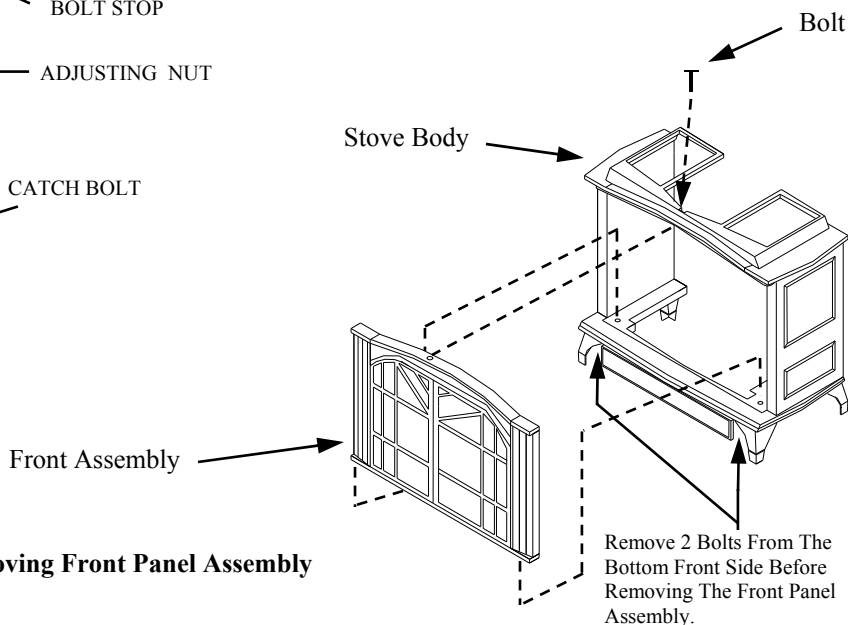

Figure 12– Removing Front Panel Assembly
13. Remove 2 bolts from the bottom of the stove and discard. Remove the bolt located in the front top center of the stove to remove the front panel assembly. (see figure 12) **(NOTE: When removing the front panel assembly be prepared to hold the front panel assembly before removing the last bolt.)**